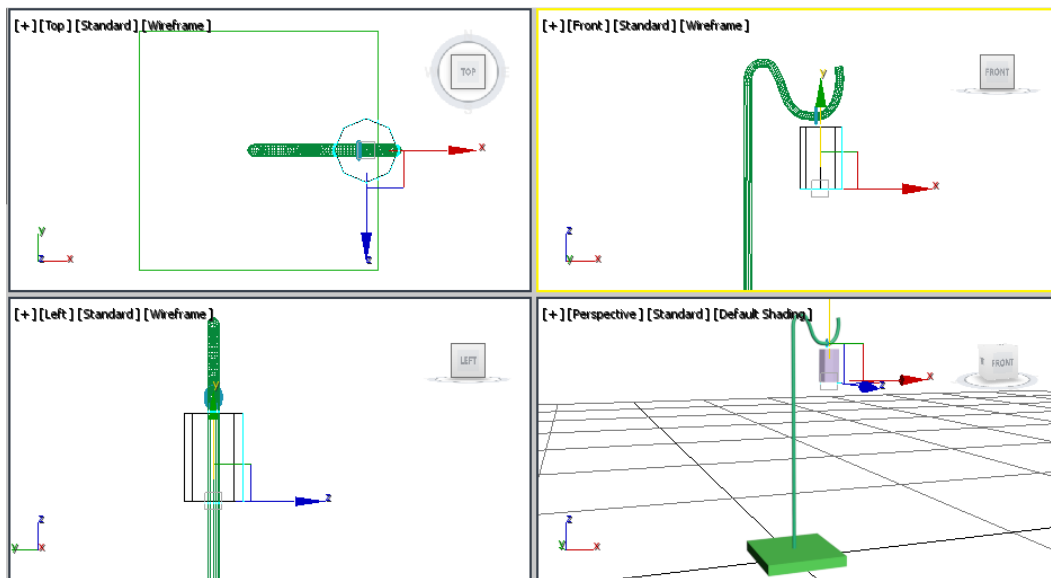

Figure 5-30 The lamp holder aligned in all viewports
- Set the value **1.2** in the **Amount** spinner of the **Parameters** rollout and press the ENTER key; *lamp holder* is extruded. Next, align it in all viewports, as shown in Figure 5-30.